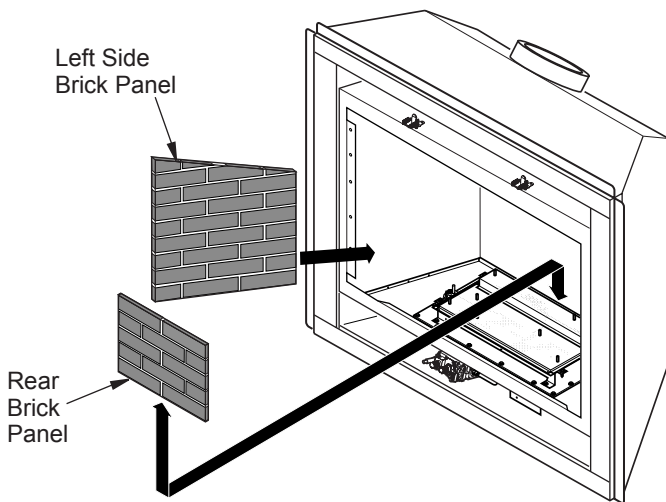

Figure 42 - Installing Brick Panels
5. Install rear brick panel first. Rest bottom edge of panel on back edge of grate (see Figure 42).
6. Install left side brick panel by sliding it between burner assembly and side of fireplace (see Figure 42).